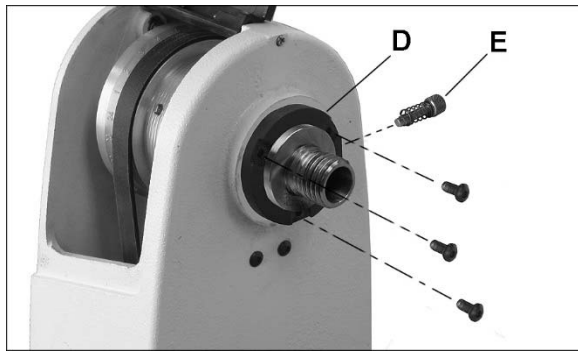

Figure 11-2
7. Remove three button head screws to loosen cover (D, Figure 11-2). NOTE: When cover is loosened, the spindle lock assembly (E) may pop out with its spring. Be careful not to lose these parts.
- to place cover (D, Figure 11-2) onto spindle *before* inserting spindle into headstock.
- to insert spindle lock with its spring (E, Figure 11-2) before tightening cover.